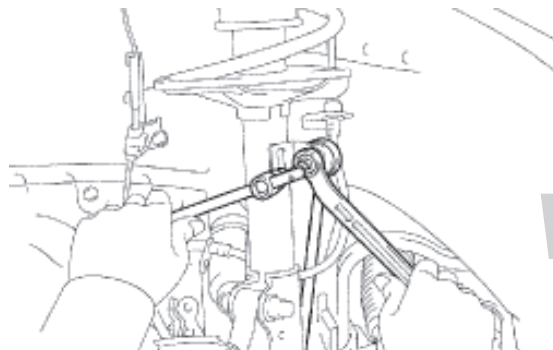

fig. 3
3. Disconnect the sway bar link from the strut. Save nut for re-installation. (fig. 3)